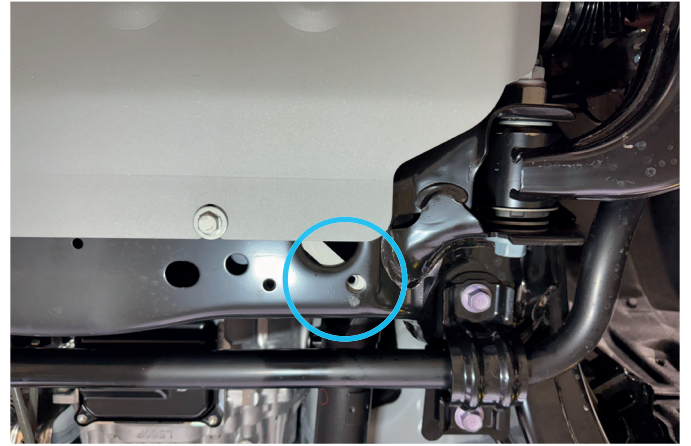

Fig. 8
**\*Fig.8 shows proper placement of insert nut inside frame on the drivers side.**